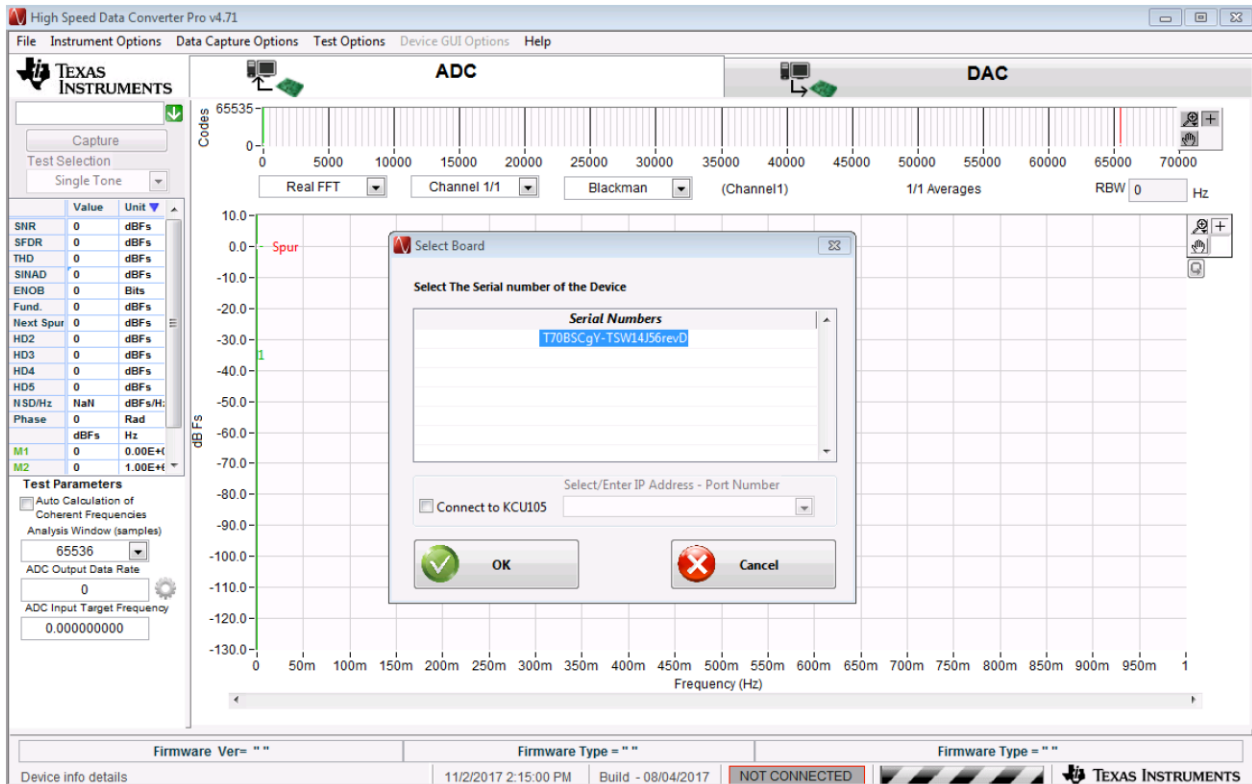

Figure 3. HSDC Pro GUI Connecting TSW14J56EVM
2. Connect to the TSW14J56EVM through the USB ID (see Figure 3).